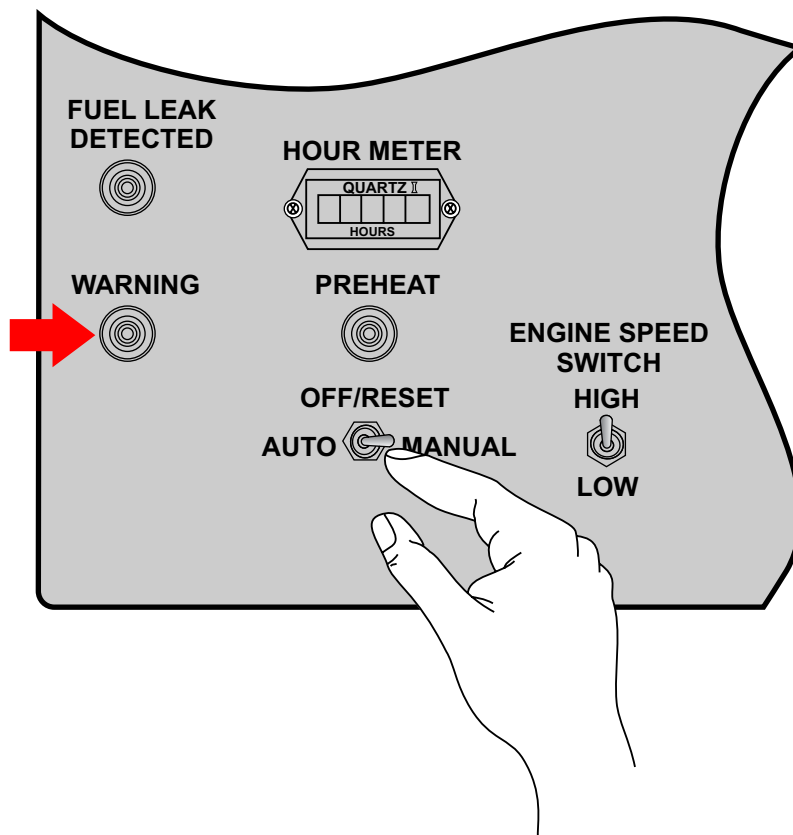

Figure 3. Generator Control Panel (Warning Lamp)
1. With the engine **OFF**, place the **OFF/Reset** switch (Figure 3) in the manual position to start the engine.